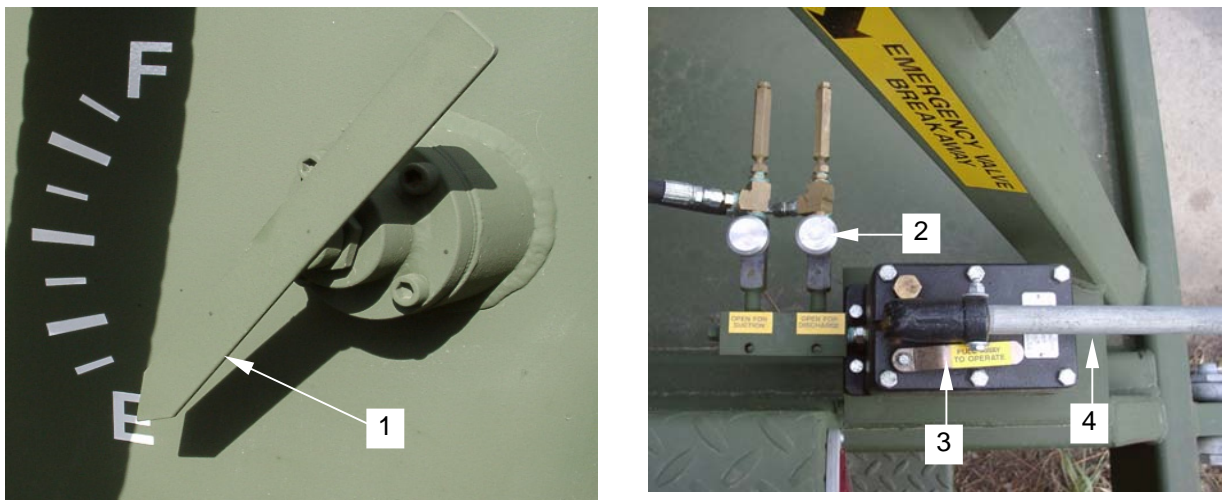

Figure 35. Float Level Indicator and Hydraulic Valve Controls
- e. Observe tank draining as shown on float level indicator (**figure 35, item 1**).
- f. When tank is empty, close drain valve (DISCHARGE) hydraulic control knob (**figure 35, item 2**).
- g. Place hydraulic pump selector lever (**figure 35, item 3**) so it is aligned with the pump handle (**figure 35, item 4**).